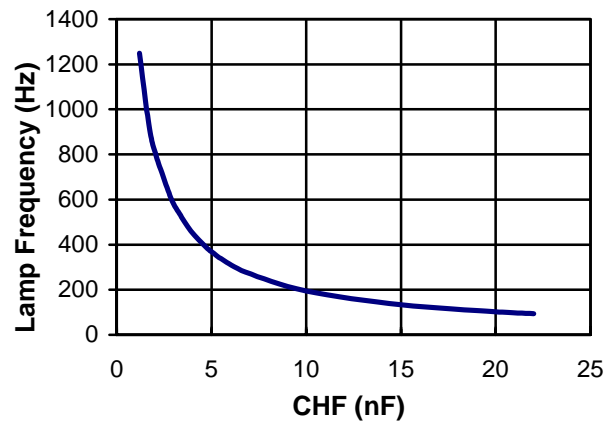

Figure 1: Typical Lamp Frequency vs. CLF Capacitor
Selecting the appropriate value of CHF capacitor will specify the inductor switching frequency (HF) and the lamp frequency (LF) of the D365A IC driver. A divider circuit in the internal oscillator circuitry of the D365A IC divides the inductor switching frequency by 72 to get the lamp frequency ( $LF = HF/72$ ). Lamp frequencies of 200 – 500 Hz are typically used for longer EL lamp life. Figure 1 graphically represents the effect of CHF capacitor value on the lamp frequency oscillator at  $V_+ = 3.3V$ . In this example at  $V_+ = 3.3V$ ,  $LF = 2000 \text{ nF-Hz}/CHF$ .